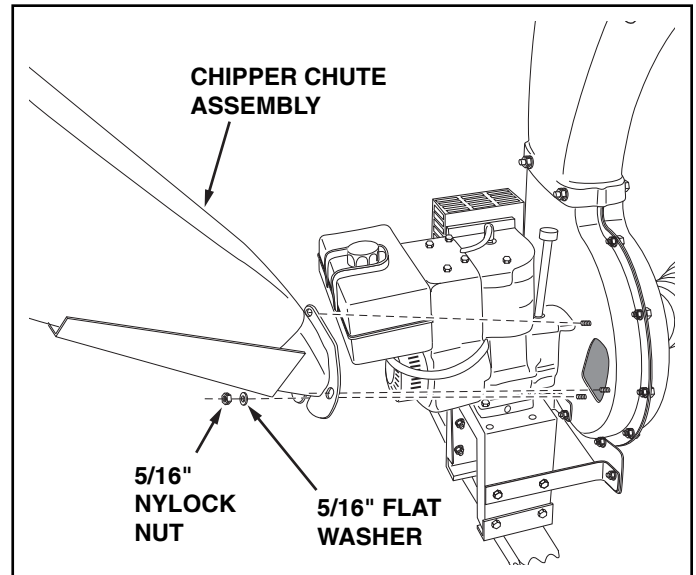

FIGURE 20
- Attach the chipper chute assembly to the weld bolts on the back side of the impeller housing using three 5/16" flat washers and 5/16" Nylock nuts. **Tighten.** See figure 20.